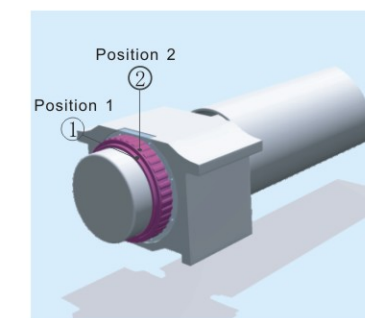

Fig. 7-12 : Axle fixation bearing with locking bolt.
2. If the bearing mounting is secured axially by means of a split groove ring (position 1) and a locknut (position 2), push the spacer ring and the locknut onto the roll neck one by one. Fix the split groove ring in the roll neck groove. Tighten the locknut only moderately at first while moving the chock constantly to the right and to the left so that the cones abut the mating parts and the bearing is aligned. Tighten the locknut securely against the groove ring. Loosen the locknut until a clearance of 0.5 to 1.2 mm is obtained. Secure by nut lock to prevent it from accidentally being turned. (Fig. 7-12)